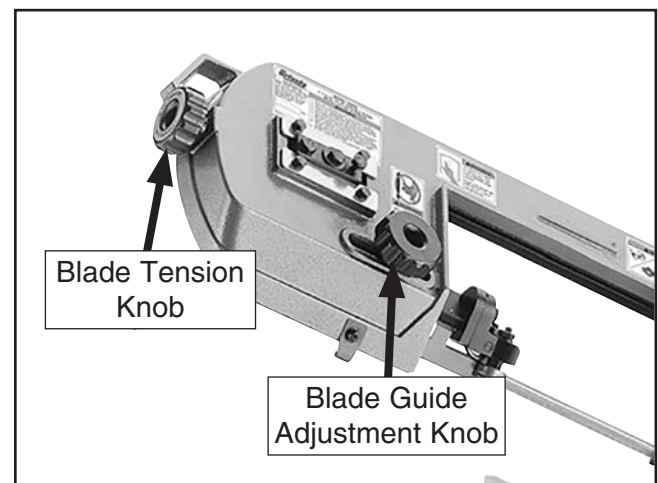

Figure 54. Blade tension components.
3. Loosen blade guide adjustment knob (see **Figure 54**) and slide guide as far from front guide as it will allow, then tighten knob.
4. Turn blade tension knob (see **Figure 54**) clockwise to tighten blade as tight as you can.